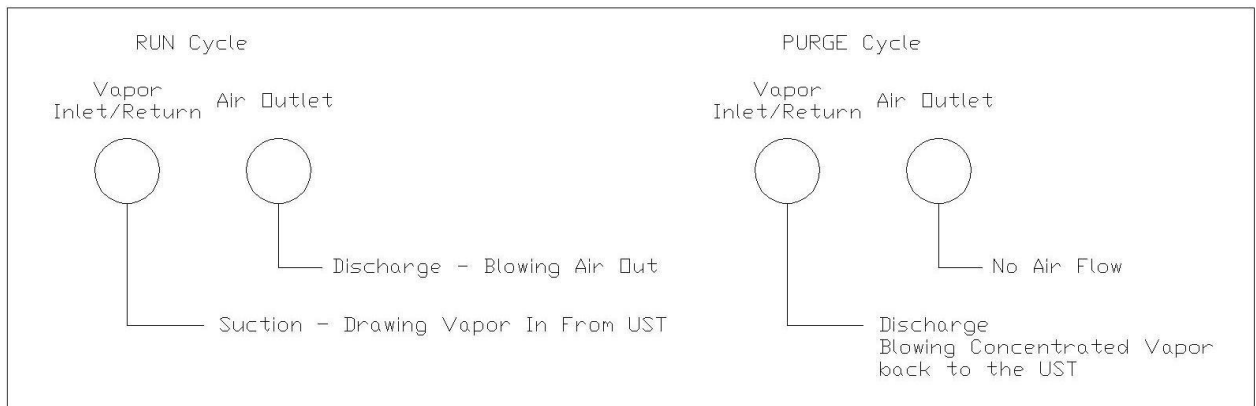

Figure 33: *Green Machine* Operation Diagram
2. During the 60-second RUN mode: (**See Figure 33**)
3. During the 60-second PURGE cycle: (**See Figure 33**)